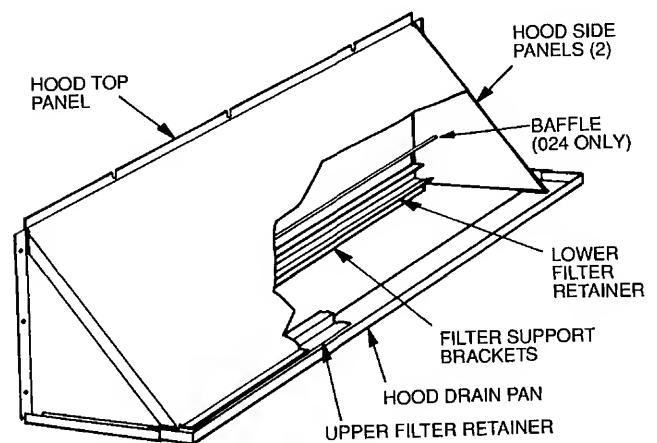

Fig. 18 - Outdoor-Air Hood Details
- Assemble hood top panel and side panels, upper filter retainer, and hood drain pan (Fig. 18).
- Secure lower filter retainer and long piece of filter support bracket to unit. See Fig. 18. Leave screws on 024 units loose.